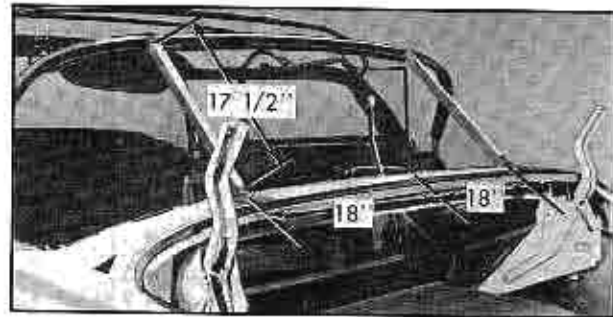

Fig. 3-104 Installing Spacer Sticks on Rear Roof Bow
10. Lock front roof rail to windshield header and position the rear roof bow for proper top installation by installing spacer sticks as shown in Fig. 3-104. Note that sticks are placed 36 inches apart, each being 18 inches from the centerline of the body. The stick length is approximately 17-1/2 inches, measured from the chrome belt molding to the lowest edge on the rear roof bow.